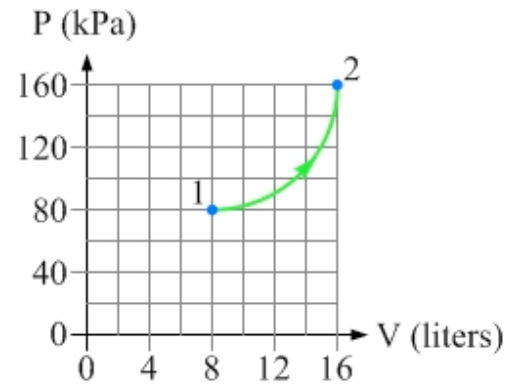

Figure 15.28: P-V diagram for a process taking a diatomic ideal gas from state 1 to state 2, for Exercise 31.
31. A system of diatomic ideal gas is taken through the process shown in Figure 15.28. The process has the shape of a $\frac{1}{4}$ -circle on the P-V diagram. For this process, find (a) the work done by the gas, (b) the change in internal energy, and (c) the heat added to the gas.